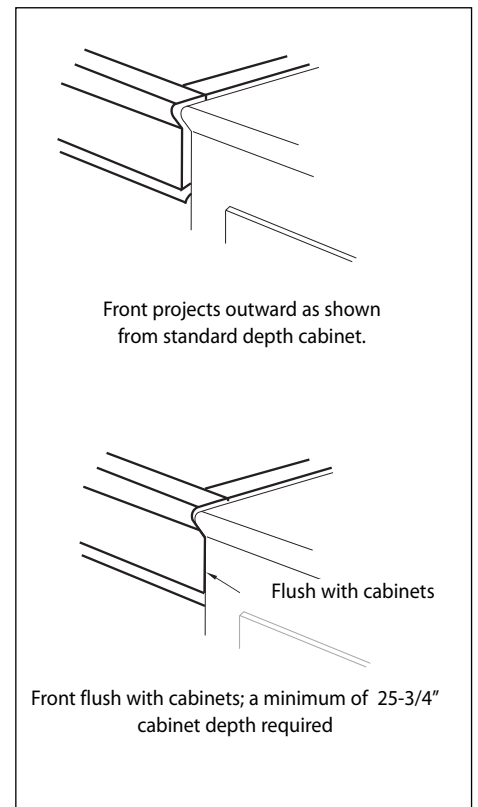

Fig. 4
4. The cooktop can be installed in various positions with the front either flush or projecting, depending on the countertop depth. See Fig. 4 & Fig. 7 (cooktop side view).